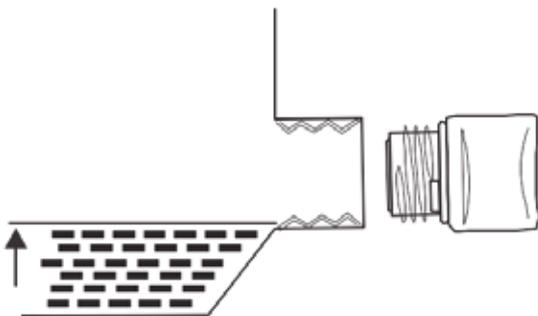

Figure 4: Engine Oil Correct Level
3. Using the supplied funnel and oil, pour the entire bottle of oil into the engine. See correct oil level in Figure 4 below.
- The engine is filled with engine oil (see Figure 4: *Engine Oil Correct Level* on page 10).